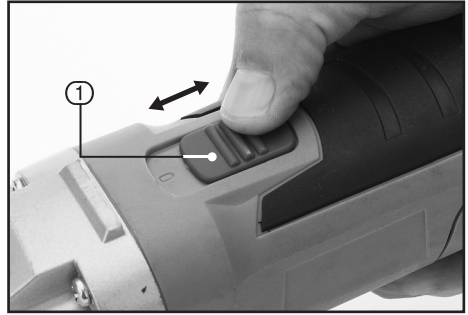

FIG.8
9.1 OPERATING THE ON/OFF SWITCH – FIG.8